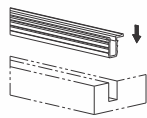
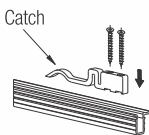

Fig.2
Fig.3
1. Insert the track into the slot at top and bottom of cabinet. Slot should be 8.5mm wide and 12.5mm deep. Refer Fig. 2 (For dimensions Refer Fig. 1).
2. Fit the catch with screws into the bottom track as shown in Fig. 3 (For dimensions Refer Fig. 1).
1. Cut a slot of 2mm wide & 6.5mm deep on bottom of cabinet, 8.5mm wide and 12.5mm deep slot on top of the cabinet and insert the Dome track and Top track into the slot at bottom and top of cabinet respectively as shown in Fig. 2 & Fig. 3. For dimensions refer Fig. 1.
3. Place the top plates on the shutter with the bottom of the bolt inserted into the hole and screw them as shown in the Fig. 2.
4. Slide the carriers on to the track as shown in Fig. 3.